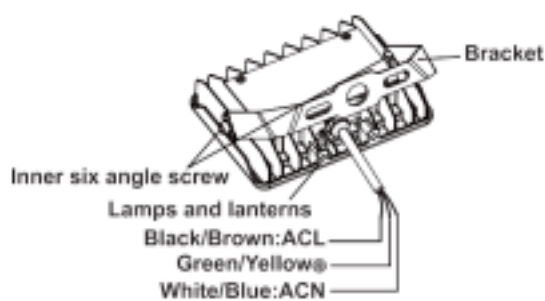

figure 3.3
Step 2: Finish the wire connection according to the right mode of connection (pay attention to positive wire, negative wire, and ground wire), then put the wire into the lamp pole; (figure 3.3)